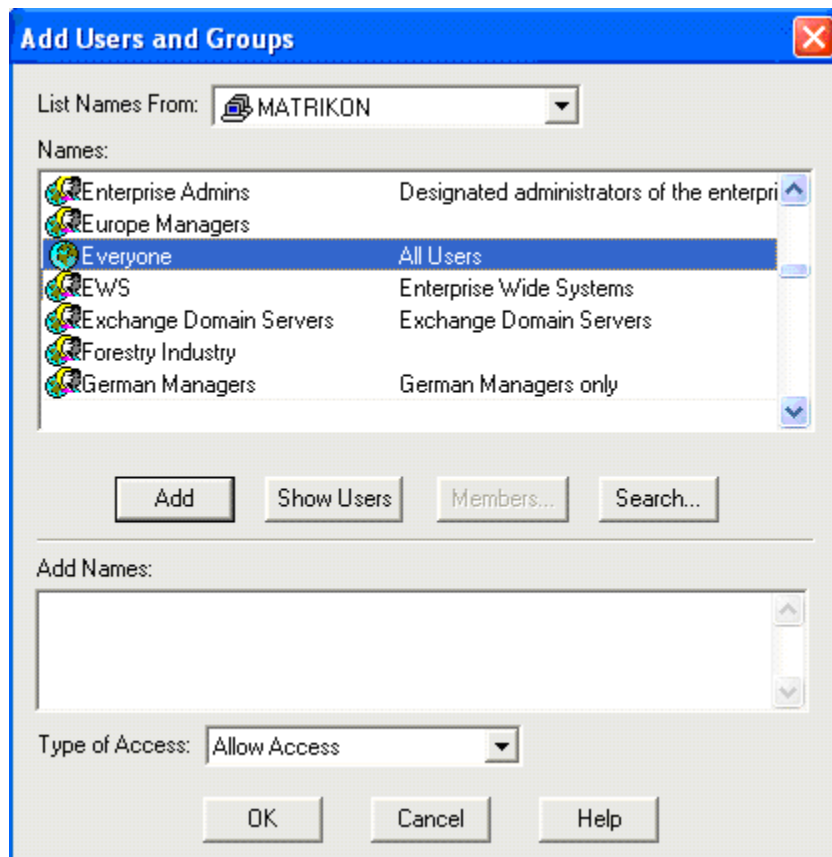

Figure 34 - Add Users and Groups Window
10. The **Add Users and Groups** window (Figure 34) appears.